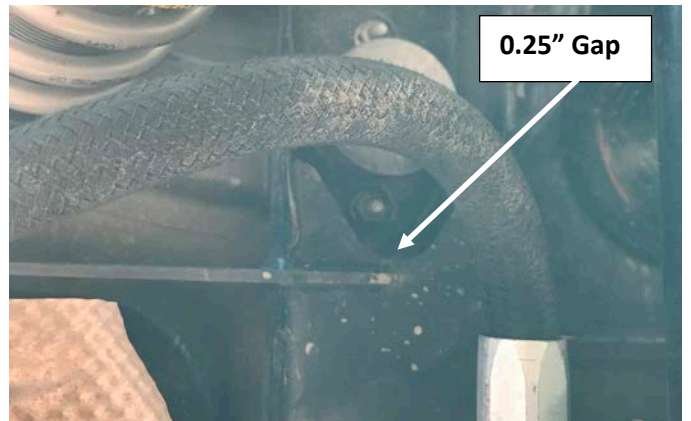

Fig 3. Front edge of mount is 1/4" away from cross member radius.
10. Hold the upper coilover bracket in place. This is a two person job. First hold it flush against the inside of the frame, slide it up until the little tang sits on the bottom of the frame. Line up the front edge of bracket on the cross member. When properly positioned the bracket will be parallel to the tub basket, flat on the frame and the bolt will just barely slide by the body ribbing. Trim the bracket as necessary then tack into place. See Fig 3 & 4.